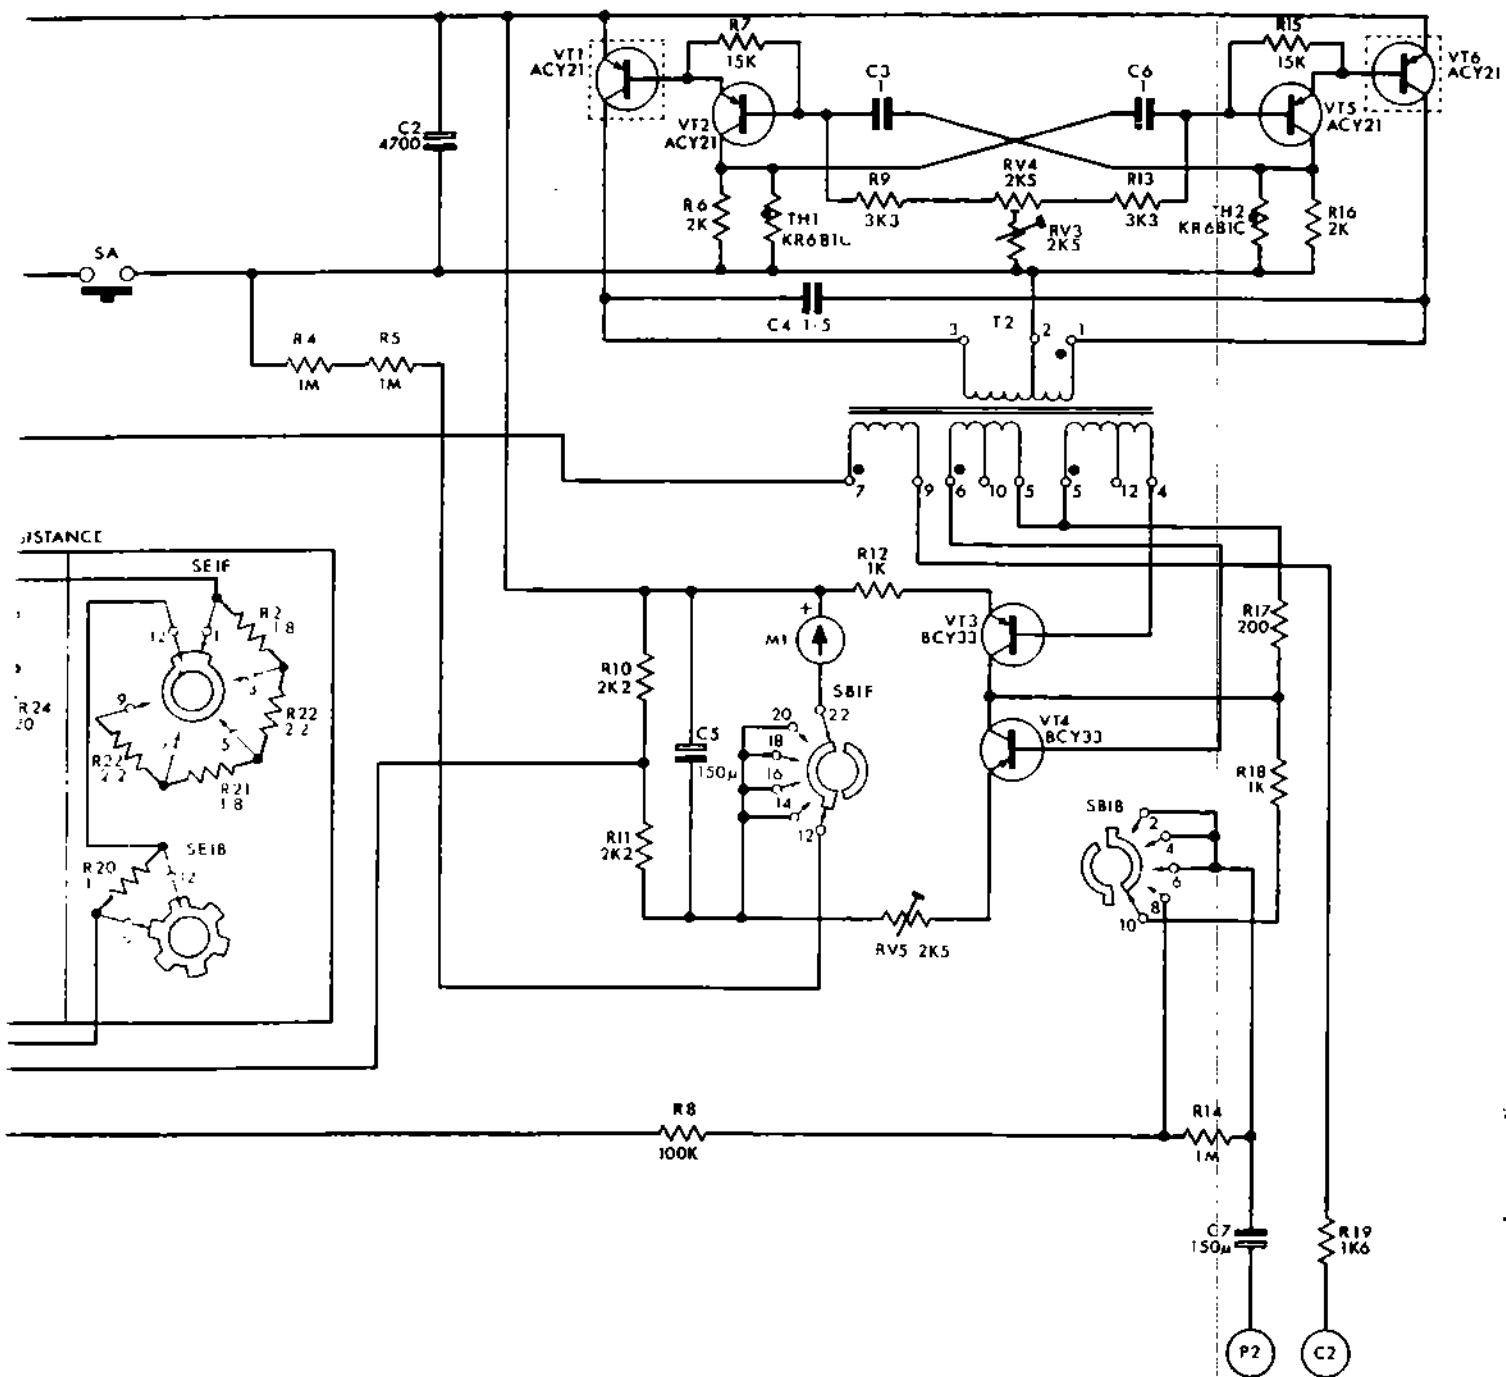

Figure 4-2. Schematic Diagram of Cat. No. 250241
operated alternating current inverter, a voltage rectifier, and a resistance network. (Refer to Figure 4-2 for a schematic diagram of the battery-operated earth tester.)
4. **RESISTANCE NETWORK.** - Figure 4-2 shows the schematic diagram with the resistance network.
b. **BATTERY-OPERATED EARTH TESTER.** (Refer to Figure 4-2.) Same as hand-crank earth tester except the current source is a battery-driven inverter with a solid state rectifier supplying current to the meter.